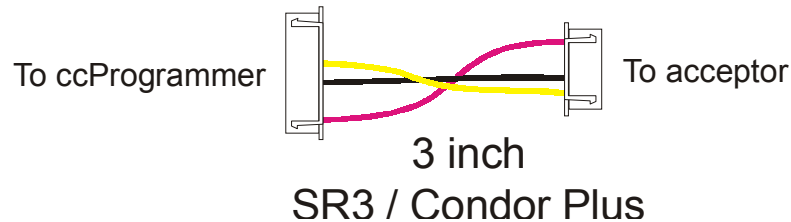

Figure 3: ccProgrammer 3 inch acceptor cable
- 1 x SR3 / Condor Plus cable. (see Figure 3).